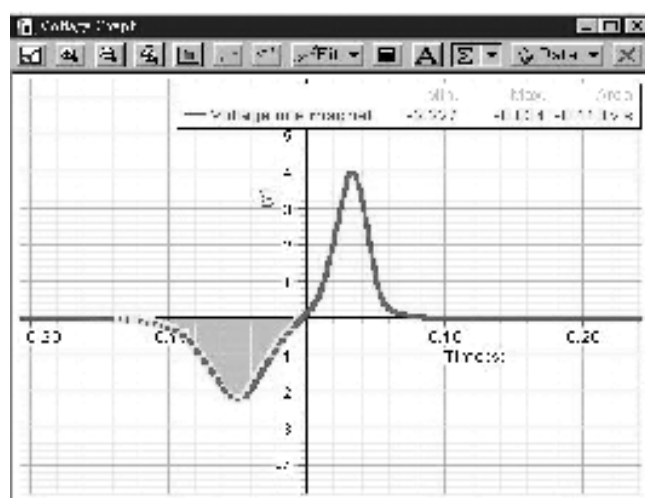

Figure 5
2. Press the left key on the computer mouse and drag on the graph on display window, to select the area you want to enclose for area integration under the data curve. As Figure 5, if the gray area is the chosen area, the statistics box area above the curve picture would present its corresponding statistical information of the chosen area.